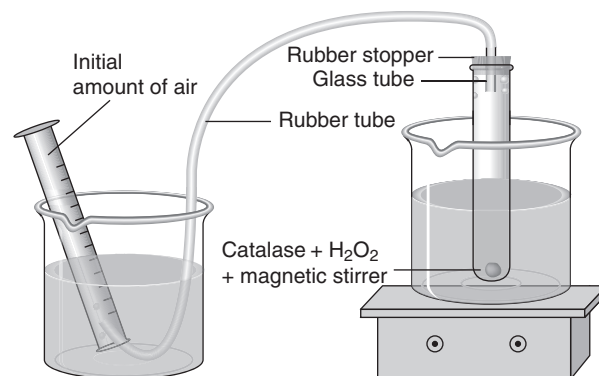

Figure 36.1
- B. Set up the apparatus according to Figure 36.1. Heat the water bath to 35–37°C. Often when the graduated cylinder is tipped over, a small amount of air will be trapped at the top. Record this initial amount of air in the 25-mL graduated cylinder.